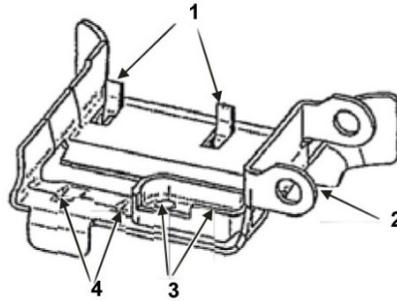

Figure 12. Tray Assembly.
1. Check feed tray (Figure 12, Item 2), for cracks, damaged, or loose rivets (Figure 12, Item 3), and gouges in area (Figure 12, Item 4). Replace as needed (WP 0011).
2. Check for damaged, weak, or worn operation parts in feed tray assembly (Figure 12, Item 2).
3. Check feed pawls (Figure 12, Item 1) for excessive wear, and that they move freely without binding.